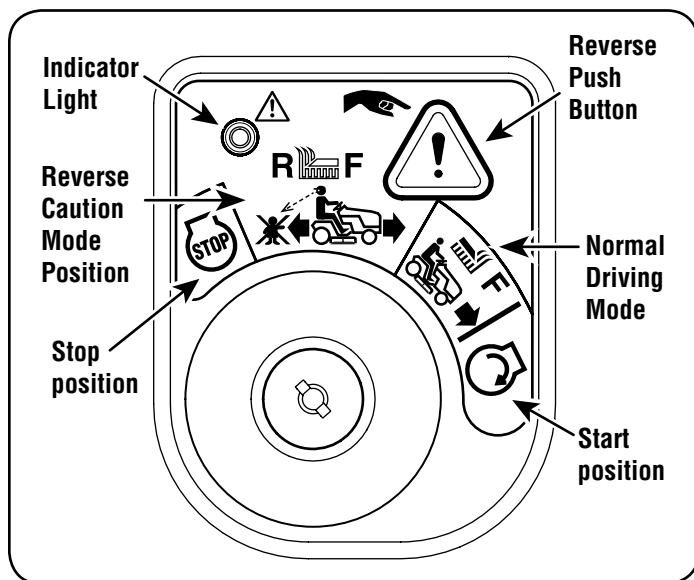

Figure 11
2. Turn the key from the NORMAL MOWING  (Green) position to the REVERSE CAUTION MODE  (Yellow) position of the ignition module. See "Figure 11".
3. Press the REVERSE PUSH BUTTON  at the top, right corner of the ignition module. The red indicator light at the top, left corner of the ignition module will be ON while activated. See "Figure 11".